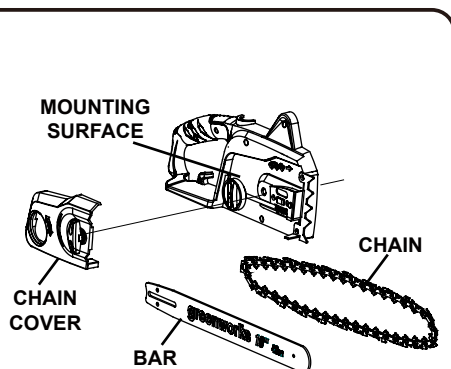

Fig. 24
- Remove the chain cover. (See Fig.24)
- Remove the bar and chain from the mounting surface. (See Fig.24)
- Remove the old chain from the bar. (See Fig.24)